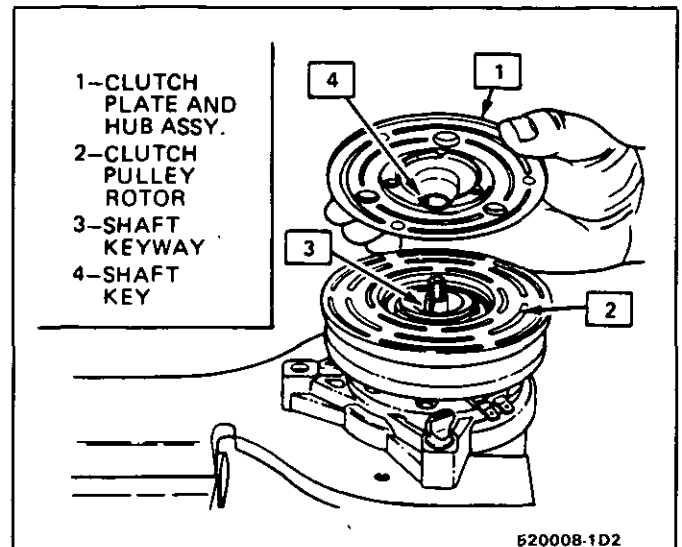

Fig. 8 Shaft Key, Clutch Plate/Hub Installation
1. Install the shaft key into the hub key groove (Fig. 8). Allow the key to project approximately 3.2mm (1/8") out of the keyway. The shaft key is curved slightly to provide an interference fit in the hub key groove.